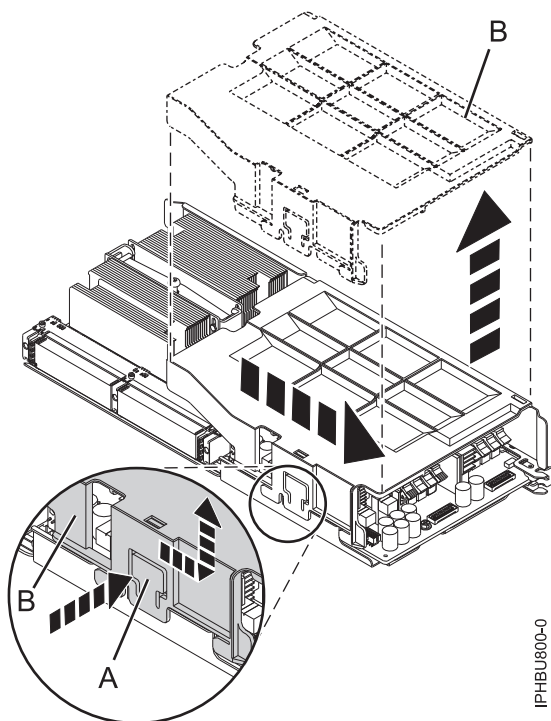

Figure 8. Removing the cover from the system processor
- If you have the cover shown in Figure 8 on page 12, push in tab (A), slide the cover (B) to the right, and remove.